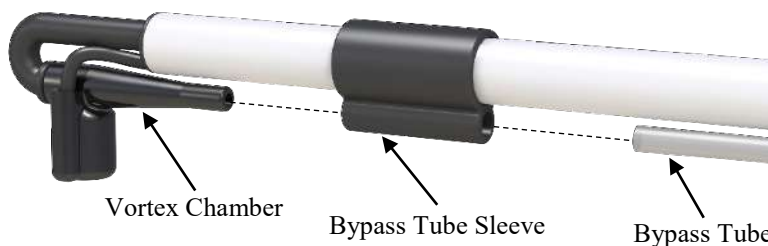

FIGURE 9-2. Exploded image of vortex intake with bypass tube pulled from bypass tube sleeve, and bypass tube sleeve pulled back away from vortex chamber
1. Pull the bypass tube out of the bypass tube sleeve (see FIGURE 9-2). If the tube is visibly dirty, remove the section of tubing by loosening the 1/4-in Swagelok® nut on the other end. Shake the tube out, or if needed, flush it out with a solvent such as water or a water-isopropyl alcohol solution. The tubing can also be replaced with 63.5 cm (2.1 ft) length of high-density polyethylene tubing of 1/4-in outer diameter and 1/8-in inner diameter.
3. Slide the bypass tubing sleeve about 3 cm (1.2 in) along the intake towards the sample cell until there is enough space to pull the base of the vortex chamber out of the sleeve. Refer again to FIGURE 9-2.